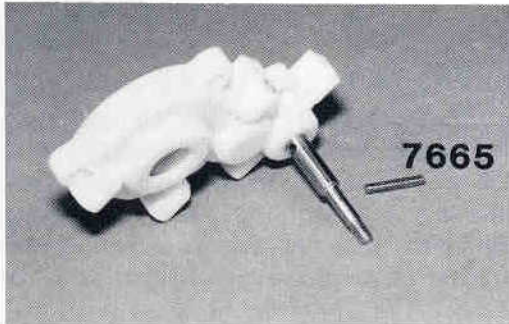

Fig. 72
□ **Figs. 72 & 73** Open bag E and remove the #7665 .078" x 7/16" roll pin. Now using a pair of needle nose pliers, squeeze the roll pin into the hole in the #6571 drive shaft (as shown) and center the pin to the best of your ability.